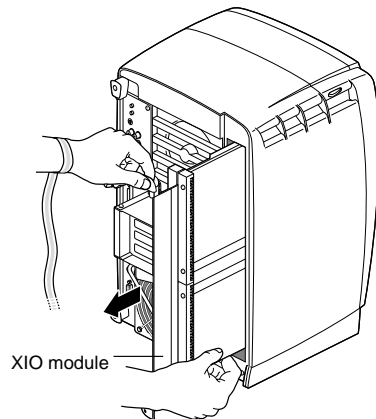

Figure 9 Removing the XIO Quad-Module
3. Grasp the XIO Quad-Module along its length, and support the base of the module as you remove it from the chassis, as shown in Figure 9. Then place a cap on the compression connector, and store the XIO Quad-Module in an antistatic bag. Skip the next section and go to “About the XIO Tri-Module and XIO Boards” on page 15.